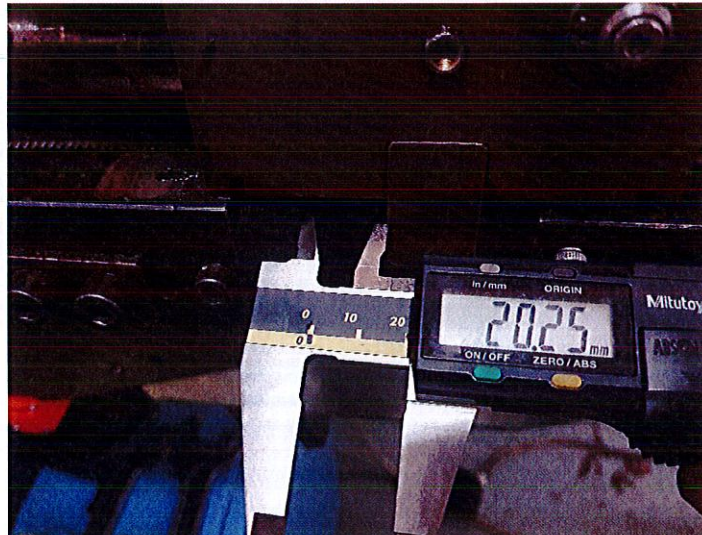

Figure 7: Checking the measurement of the feed length set
- Set the feed length to exactly 20.25mm as shown in figure 7. Use slip gauges to help. If making any adjustments to the feed stops, do them equally so that it stays balanced.